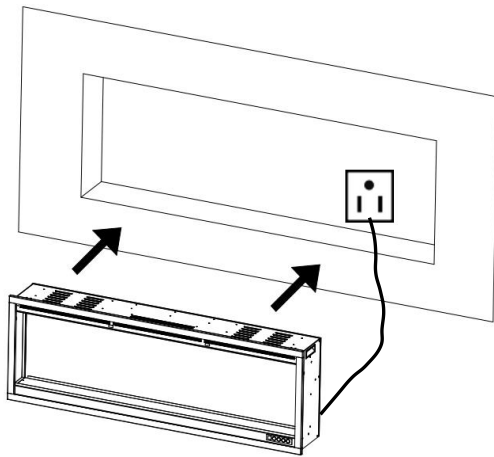
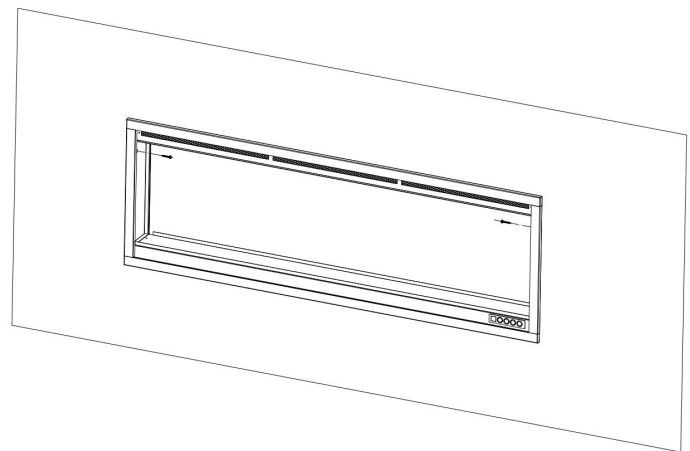

Fig. 2-3
Fig. 2-4
3. Power the fireplace by plug-into the wall receptacle. **Fig.2-3**
4. Have two adult people to lift up the fireplace and insert it into the rough-in frame and then secure it by installing 2 wood screws **(B)** through the holes. **(Fig. 2-3, Fig 2-4)**. After that, re-install the metal brackets.